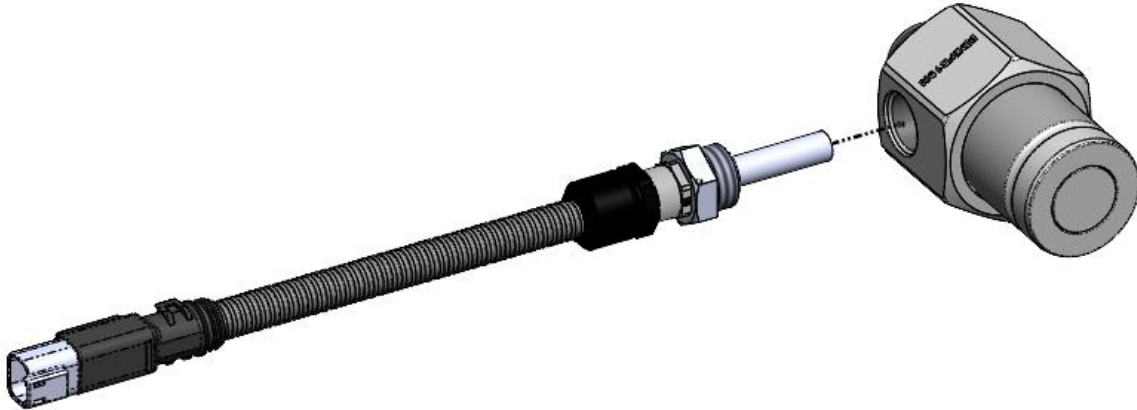

Figure 11 – DEF Heater fitment to DEF receiver
1. Diesel Exhaust Fluid (DEF) / AdBlue® has a freezing point temperature of -11°C (12°F). To allow DEF transfer in a cold temperature environment, the DEF receiver can be fitted with DEF heater. The DEF heater is screwed into the port provided in the DEF receiver tail, refer to Figure 11.